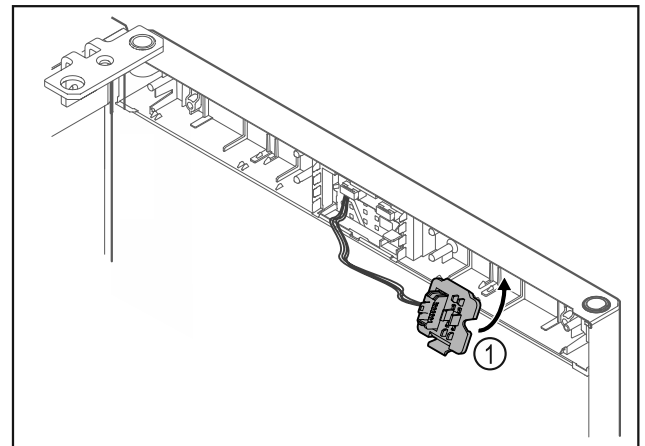

Fig. 13
- ▶ Engage the plug holder Fig. 13 (1) on the opposite side.\*